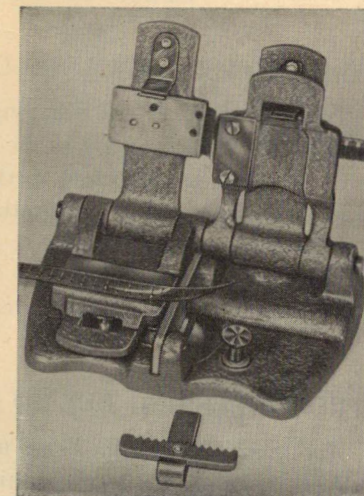

Fig. 13
3. Raise upper and lower right arm leaving film between them. (see Fig. 13)